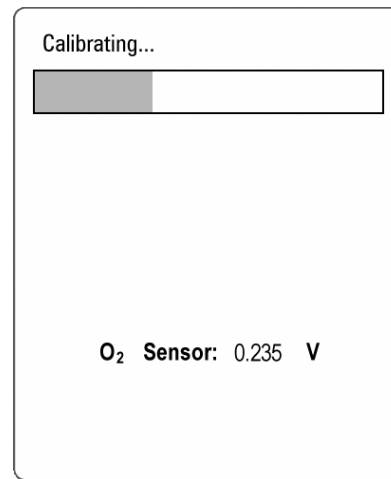
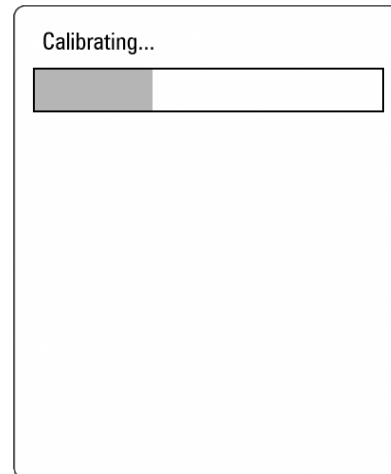

FIGURE 2-5 Oxygen Sensor Calibration Progress Bar
FIGURE 2-7 Oxygen Sensor Calibration Progress Bar (UI versions 2.24 and lower)
5. After at least three minutes have passed, select the **Next** button to initiate the calibration process. The progress bar shown in FIGURE 2-5 or FIGURE 2-7 will be displayed.